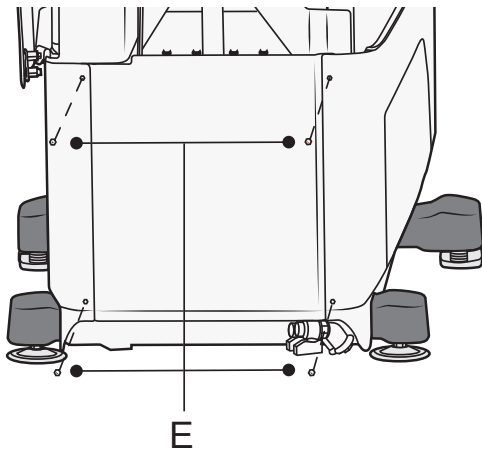

Figure 105
1. Raise the bathtub to mid level. At the foot end, remove the four screws holding the inner service cover (E). See Figure 105.